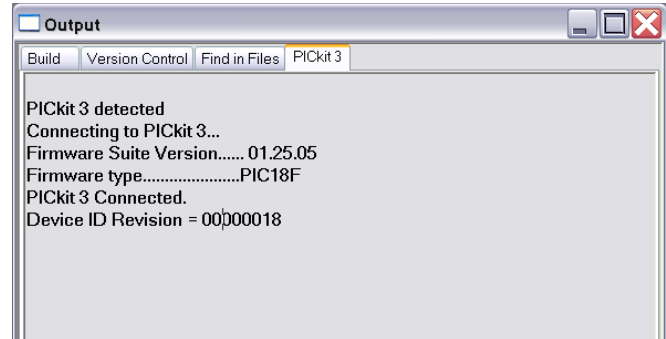

Figure 10: Response to selecting PICKit3 as debugger
2. It should indicate that the device was found successfully. It may need new firmware may need to be added. If so, allow this to be done (i.e., click OK). See Figure 10.
5. Once the debugger has been connected properly, you should see a response similar to Figure 10.